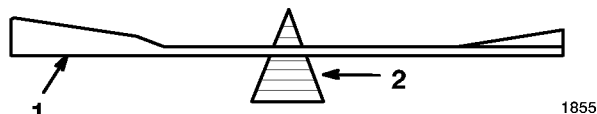

Figure 38
2. Check the balance of the blade by putting it on a blade balancer (Fig. 38). If the blade stays in a horizontal position, the blade is balanced and can be used. If the blade is not balanced, file some metal off the back side of the blade. Repeat this procedure until the blade is balanced.